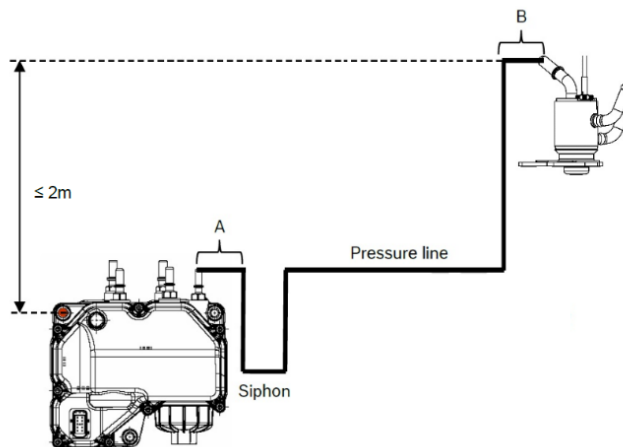

Figure 7-30. Layout: Dosing module above supply module
- In Figure 7-30, the DM is installed above the SM. An appropriately sized siphon must be integrated close to the SM. The section A and B should be as short as possible. The pressure line must be routed downwards from the DM, coupled by an angled line connector. If that is not possible, an additional siphon is needed at the DM.